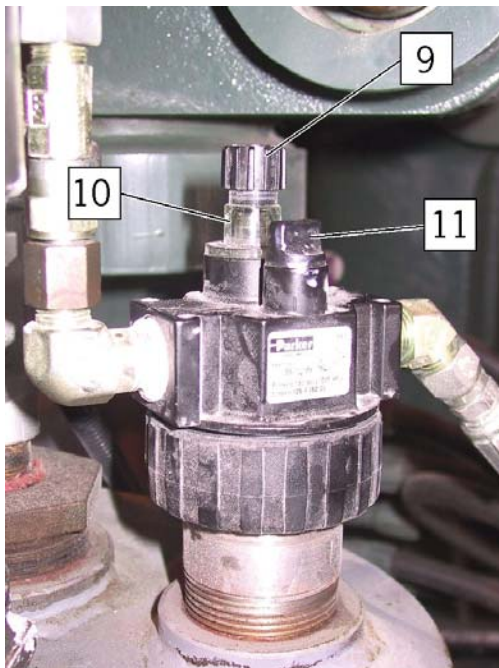

Fig. 7-22 Oil Mist Lubricator
7. Oil Mist Lubricator (see fig. 7-22)